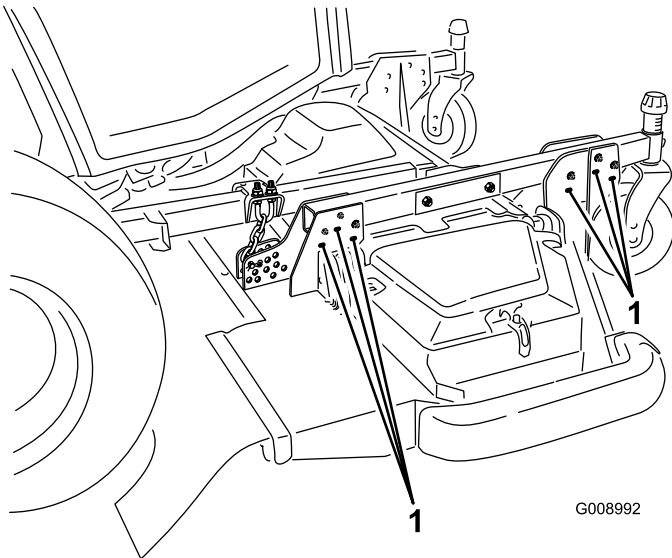

Figure 27
7. To attain the 102 to 153 mm (5 to 6 inch) height of cut settings, remove the mounting bolts securing the deck hanger brackets to the height of cut castor arms and remount the deck hanger brackets to the height of cut castor arms using the lower set of holes (Figure 27).